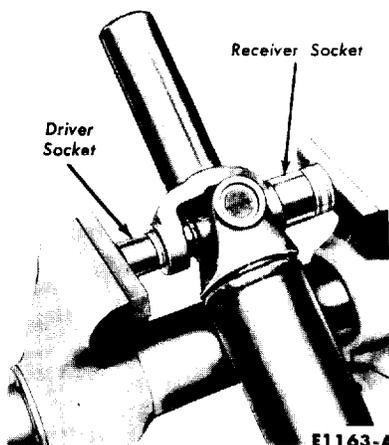

FIG. 6—U-Joint Removal
5. Place the sockets at opposite bearings so that the smaller socket becomes a bearing driver and the larger socket becomes a bearing receiver when the vise jaws come together (Fig. 6).